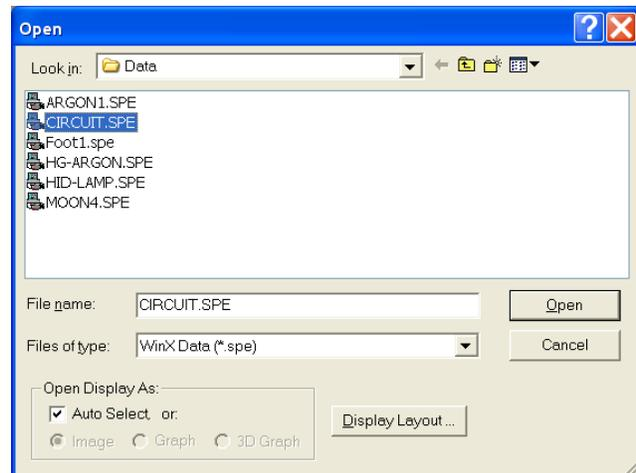

Figure 38. Open dialog
1. From the **File** menu, select **Open**. The **Open** dialog (Figure 38) will appear, allowing you to select the image to be opened. The **Look-In** field provides a browser function so you can easily find the directory where the images. By default, the data directory will be a subdirectory of the directory where WinView/32 was installed. Subdirectory names and the filenames of all files of the specified type (*the WinView/32 data type is *.spe*) in the current directory are listed in the box below the directory name.